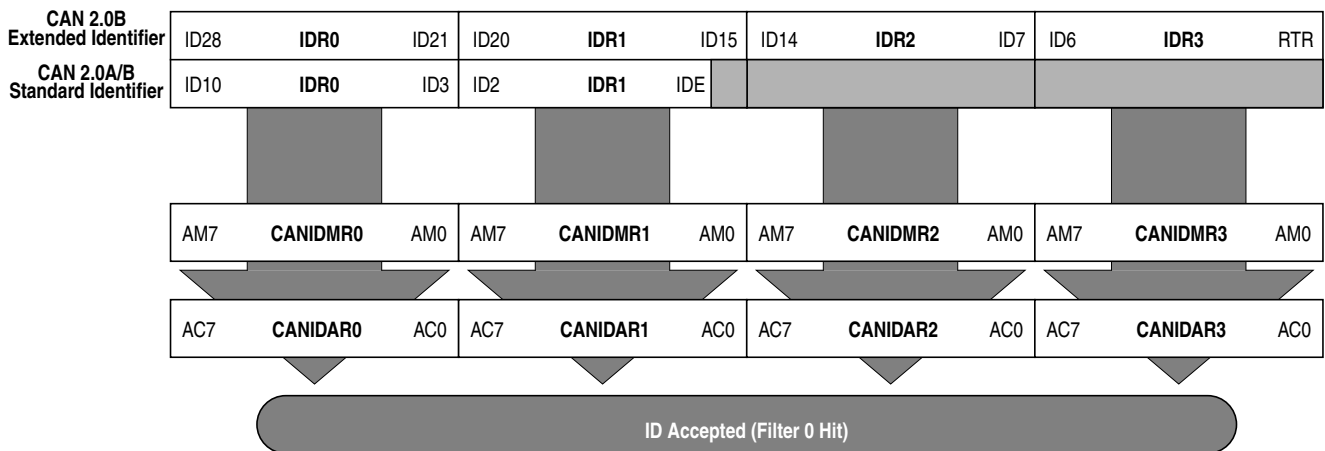

Figure 10-40. 32-bit Maskable Identifier Acceptance Filter
- The 11 bits of the standard identifier plus the RTR and IDE bits of the CAN 2.0A/B messages1. This mode implements two filters for a full length CAN 2.0B compliant extended identifier. Figure 10-40 shows how the first 32-bit filter bank (CANIDAR0–CANIDAR3, CANIDMR0–CANIDMR3) produces a filter 0 hit. Similarly, the second filter bank (CANIDAR4–CANIDAR7, CANIDMR4–CANIDMR7) produces a filter 1 hit.